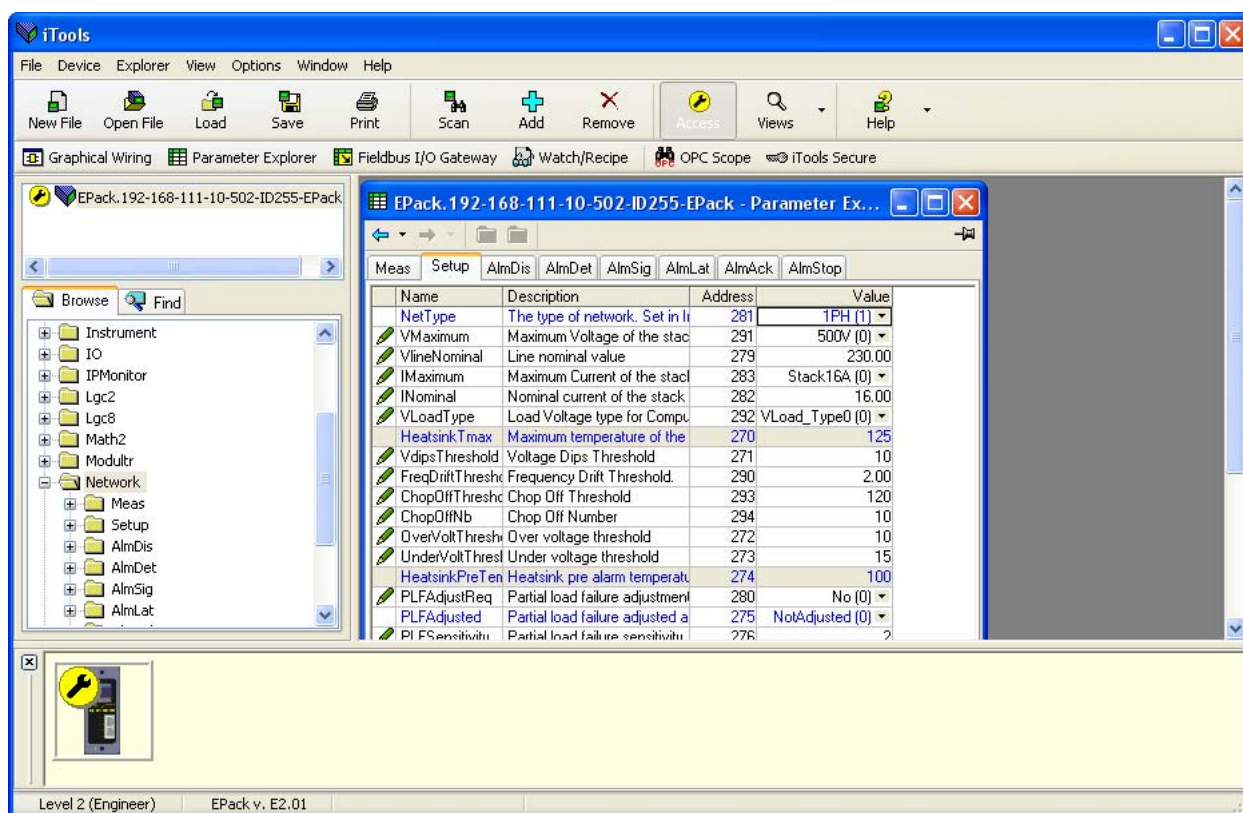

Figure 8.115 Parameter table example
In each case the function block parameters appear in the iTools window in tabular form, such as the example in figure 8.115.
1. Parameters in blue are non-editable (Read only). In the example above all the parameters are read only. Read/write parameters are in black and have a 'pencil' symbol in the 'read/Write access column at the left edge of the table. A number of such items are shown in figure 8.115, above.
2. Columns. The default explorer window (figure 8.115) contains the columns 'Name', 'Description', 'Address' and 'Value'. As can be seen from figure 8.118, above, the columns to be displayed can be selected, to a certain extent, using either the 'Explorer' menu or the context menu. 'Limits' have been enabled for the example above.